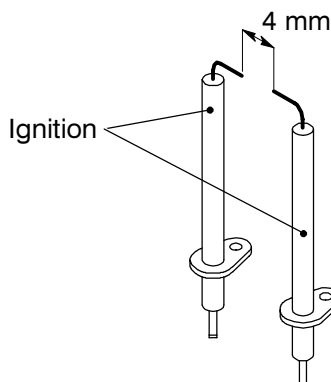

Fig. 73
- 2 Check for the correct distance between the metallic edges of the ignition electrodes (see Fig. 73).